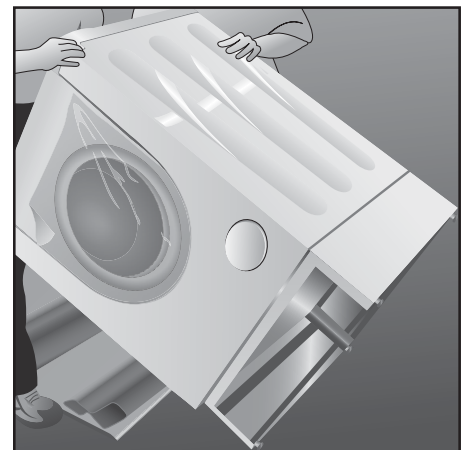

Figure 9
7. Lift the washer/dryer and pedestal assembly back to an upright position (use of an assistant is required). See **Figure 9**.